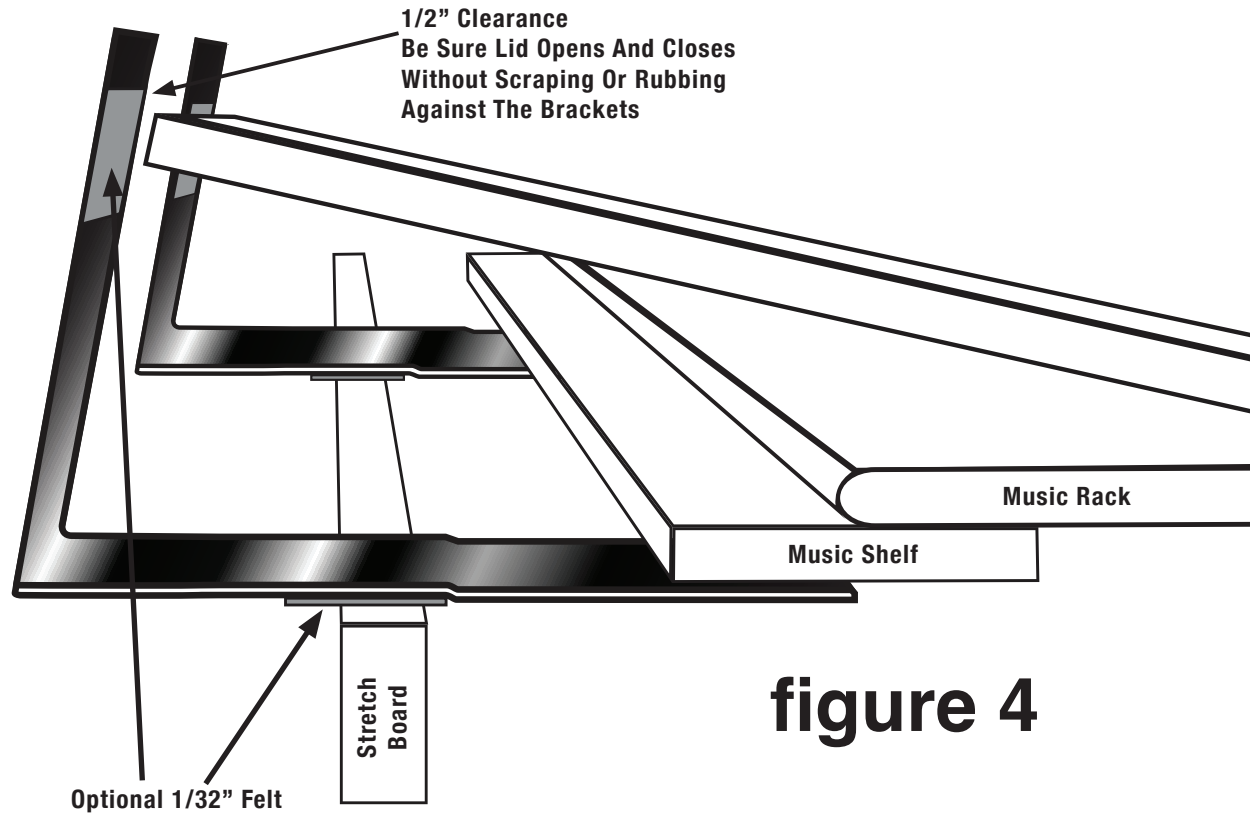

figure 4
C.) Optional: A thin strip of 1/32" felt is included. You can cut this and stick it on the brackets for additional protection where your brackets meet the stretch board and lid. (**See figure 4**). If you choose to use this optional felt, put it on last, after completing assembly.